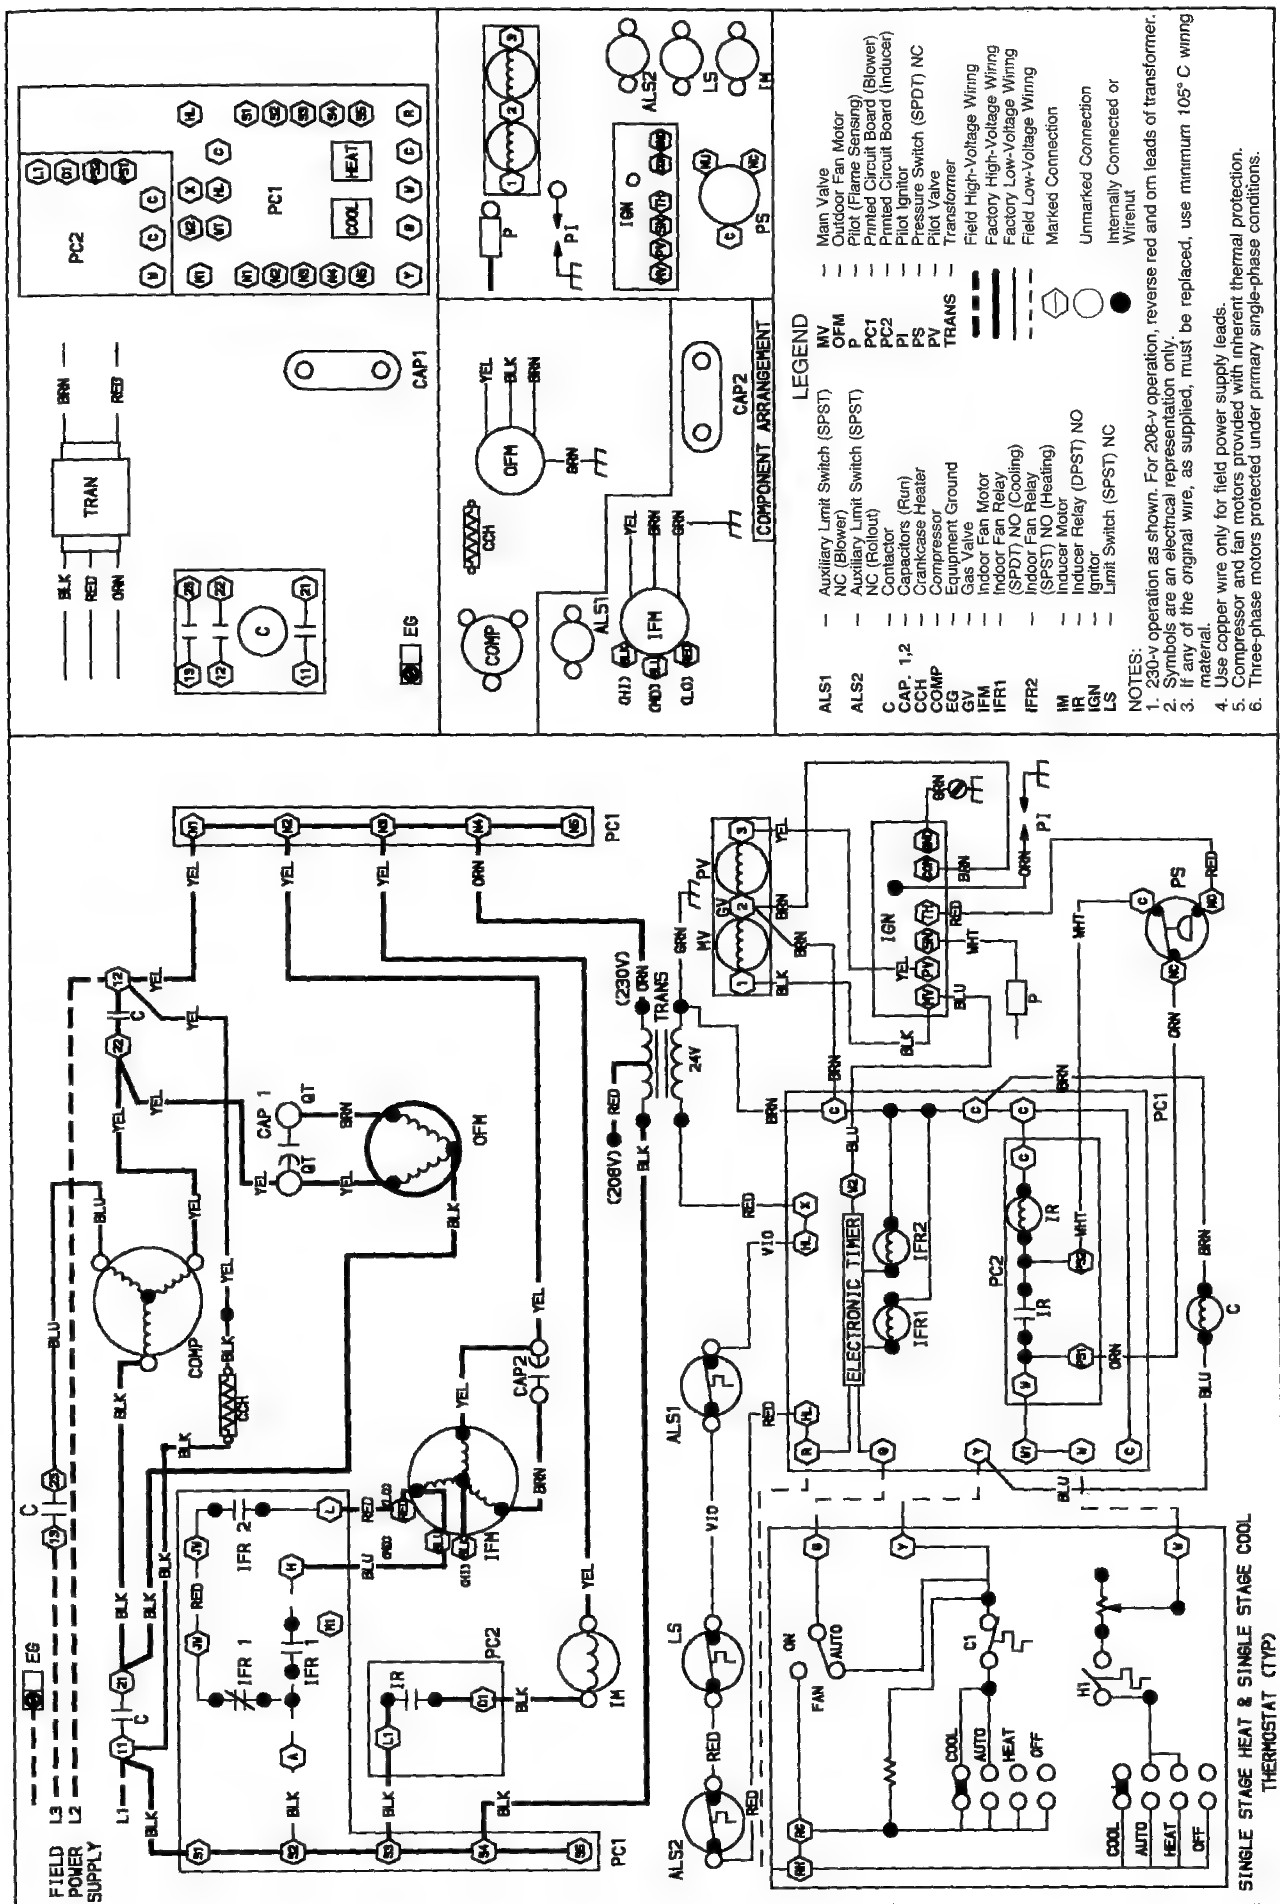

Fig. 14 — Typical 3-Phase Wiring Diagram
HEATING SEQUENCE OF OPERATION — See Fig. 13 for single-phase operation and Fig. 14 for 3-phase operation. Room thermostat calls for heat, closing circuit between R and W 24-v control circuit terminals. (Power to the R terminal is supplied through LS and ALS safety switches.) The PC2 inducer control board is energized through the normally closed set of contacts of pressure switches (CPS), which starts the inducer motor (IM). The IM comes up to speed, and the vacuum in the collector box increases, opening the normally closed and closing the normally open contacts of the pressure switch (PS), energizing the circuit to the ignition control (IGN) and the pilot valve (PV). If the flame sensor proves the presence of the pilot flame, the internal switching of the ignition control deenergizes the spark generator and energizes the main gas valve (MV) and the IFR2 electronic timer. Gas flows to the main burners and is ignited by the pilot flame. The PC1 electronic timer